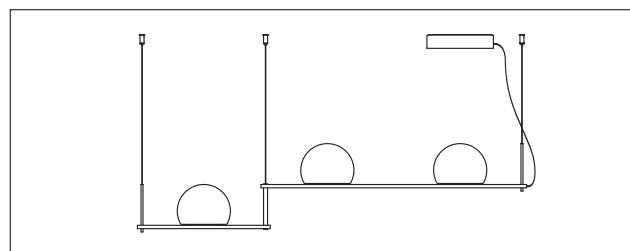
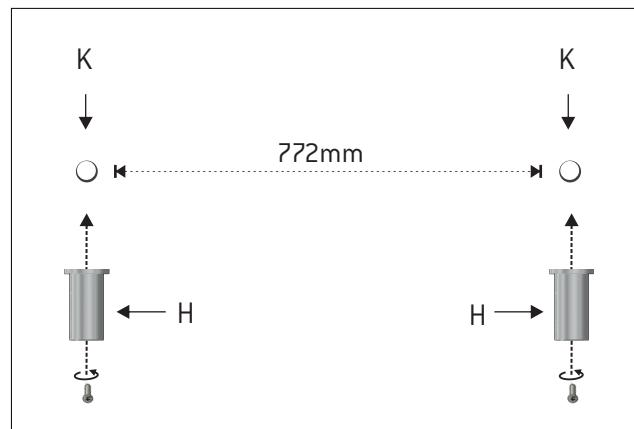
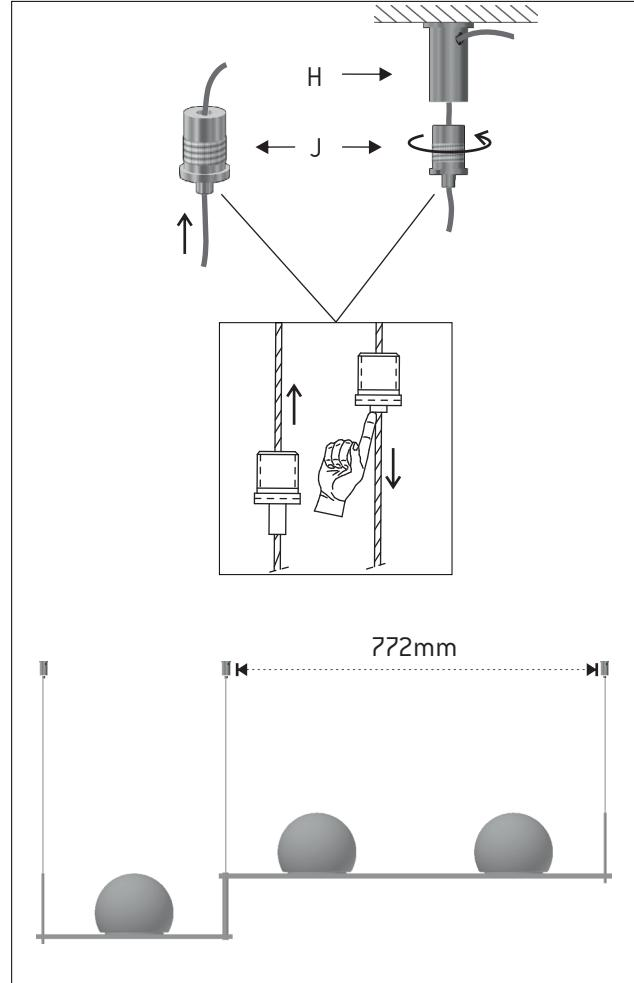

Figure 1A
Figure 5
Figure 6
- To be mounted facing up (figure 1A) go directly to step 5 (figure 5)
- 5 - Mark one spot (K) on the ceiling at a distance of 772mm between them and fix the tensors (H) in the mark. Figure 5. (See figure 6 to see the result)
- 6 - Insert the steel cables into the gripper supports (J) and then insert them through the side hole of the tensors (H). Again screw the gripper support to the tensor and adjust the cable to the desired length. Figure 6